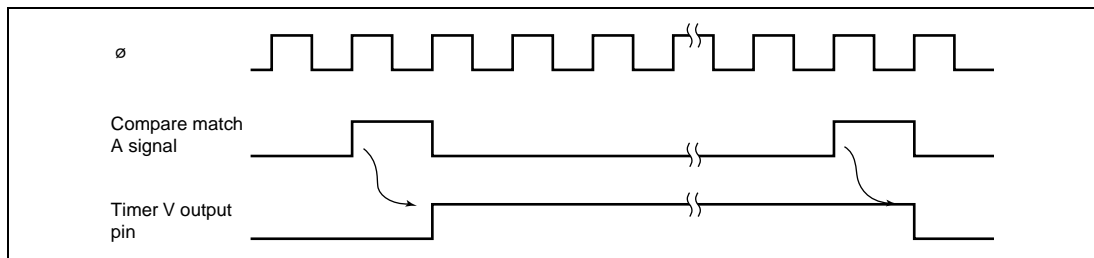

Figure 11.6 TMOV Output Timing
4. When a compare match A or B is generated, the TMOV responds with the output value selected by bits OS3 to OS0 in TCSR.V. Figure 11.6 shows the timing when the output is toggled by compare match A.